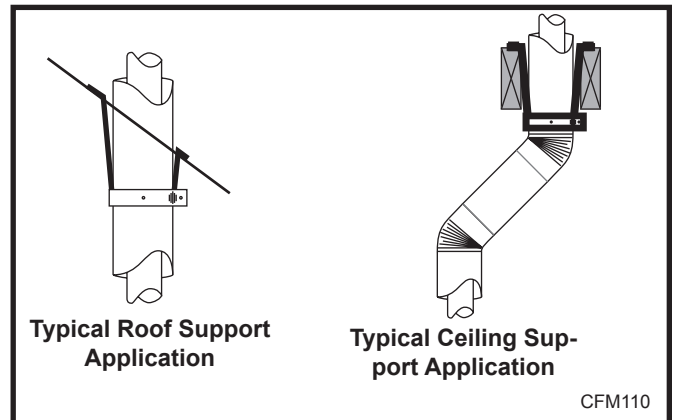
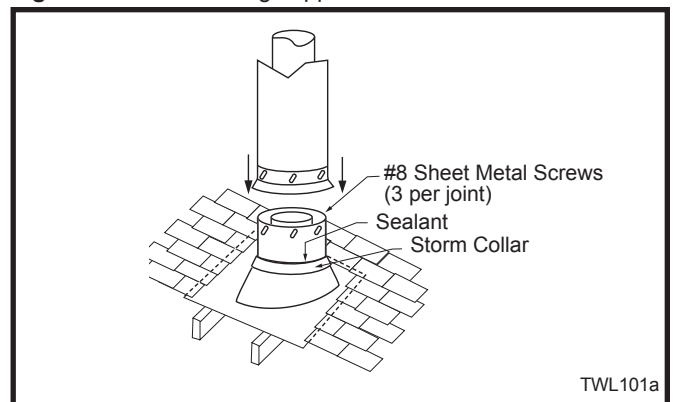

Fig. 34 Roof and ceiling supports.
Fig. 35 Roof flashing.
- 7DVCS must be used to support offsets. (Fig. 34)
7. Install roof support (Fig. 34) and roof flashing making sure upper flange of flashing is below the shingles. (Fig. 35)
8. Install appropriate pipe sections until the venting is above the flashing. (Fig. 35)
The enlarged ends of the vent section always face downward. (Fig. 35)